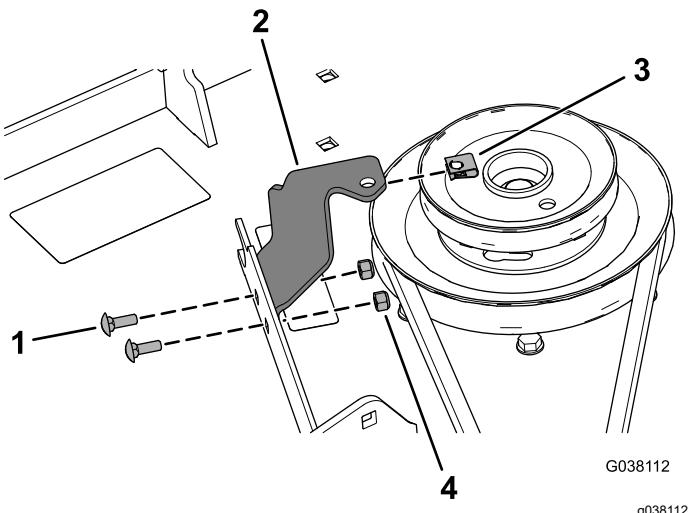

Figure 22
12. Install the belt-cover bracket to the mower deck using 2 carriage bolts (1/4 x 3/4 inch) and 2 locknuts (1/4 inch) as shown in Figure 22.
13. Install the speed nut onto the belt-cover bracket (Figure 22).